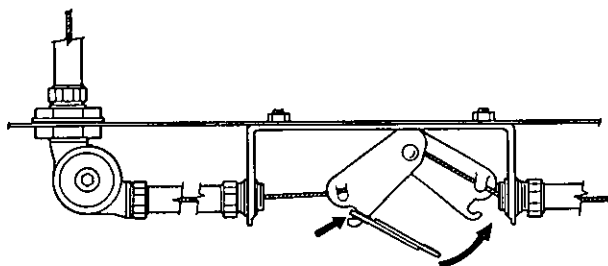

FIGURE 39
8. Hook the fusible link on the ANSUL AUTOMAN release side of the hook assembly, then pull the fusible link to the opposite side and complete the hookup as shown in Figure 39 and 40. The top of the hook assembly must be inside the bracket stiffeners. The hook assembly with the fusible link in place must be located toward the terminal detector side of the bracket.